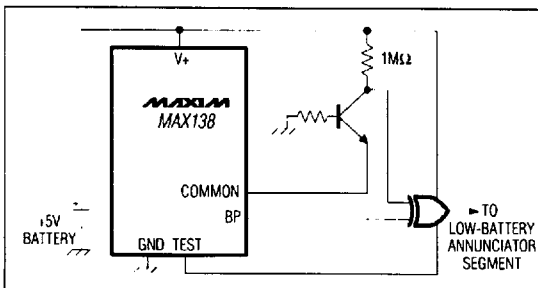

Figure 6. Low-Battery Detector and LCD Segment Drive
Since the voltage between COMMON and V+ is between +2.95V and +3.15V until the voltage between V+ and V- falls to less than +4V, a simple low-battery detector can be made using a transistor voltage detector as shown in Figure 6. When Q1 is off, the low-battery LCD segment is driven in phase with the backplane off. When Q1 turns on, the low-battery LCD segment becomes visible. Q1 turns on when the voltage at the base of Q1 is one base-emitter voltage more positive than COMMON voltage.
4. If the input-signal polarity is reversed from the desired polarity, use the minus segment to drive the vertical bar of a plus sign and (using one of the decimal-point driver circuits of Figure 6) to permanently turn on the horizontal bar of the plus sign. When the MAX138/139/140 measures a negative polarity, a "+" will be displayed. When the MAX138/139 measures a positive polarity, a "-" will be displayed. (Normal operation of the MAX138/139/140 is no polarity indication for a positive input and a "-" sign for a negative input.)